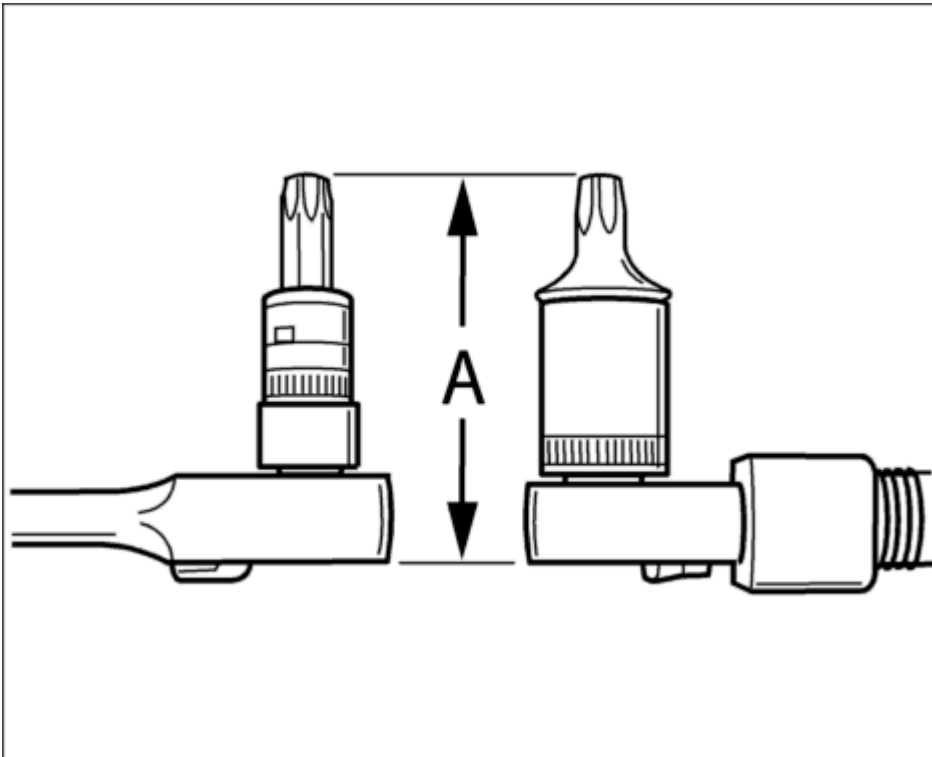

Fig. 451: Tool height
- It is best to use a tool that has an addendum of less than 50 mm -A- (see special tool) to tighten the rear fastening screw on the cylinder head cover close to the plenum panel. See **Fig. 451**.